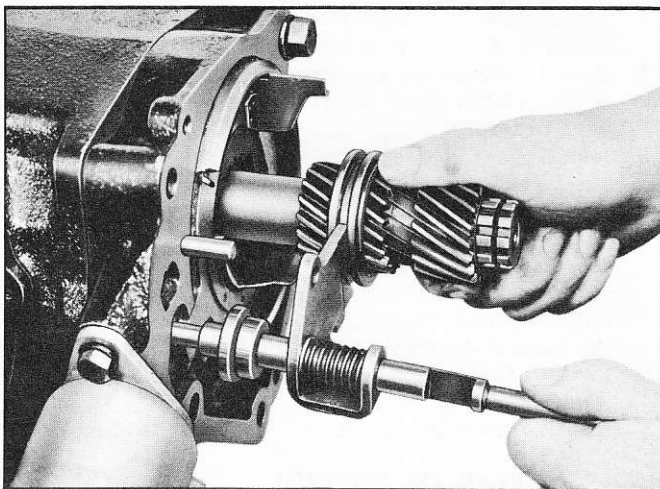

Fig. 9B—Removing Sun Gear, Shift Rail and Plunger Assemblies
4. Remove sun gear and shift rail assemblies from shaft (fig. 9B). Shift rail collar may be separated from sun gear by removing snap rings at either end of collar. Shift rail, fork, and spring may be separated by removing snap ring between cupped washer and shift fork.
5. Start the sun gear onto the mainshaft. Hold shift rail so arm of fork fits in collar on sun gear and forward end of shift rail enters opening in adapter and transmission case (fig. 9B). Slide both assemblies forward so pin in adapter locates the fork, and sun gear engages control plate.